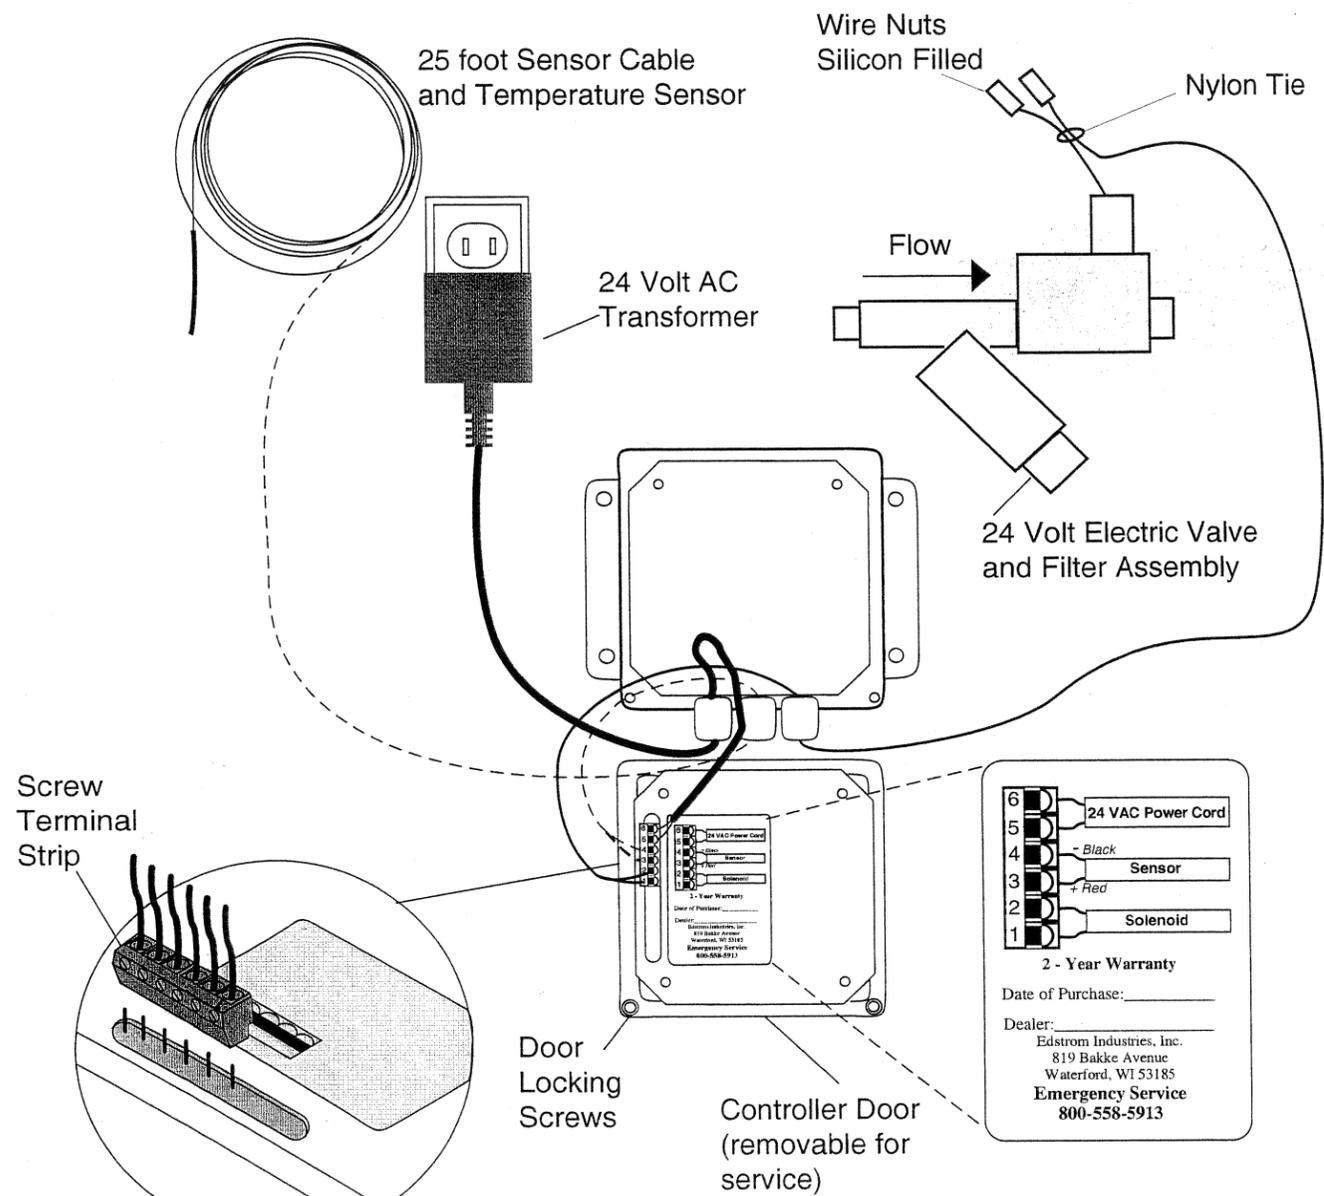

Fig. 15a
2. After securing the Controller to the wall, loosen the two screws at the top of the enclosure door allowing the door to open and swing down. (The two door screws are captured in the door and will not fall out, see Fig. 15a and 15b page 14 & 15).
4. Connect the black and red wires of the power cord to the two screw terminals on the back of the door which are labeled "24 VAC". (It is not important which of the two terminals the red and black wire are connected to; there is no polarity.) See wiring diagram Fig. 15a and 15b.